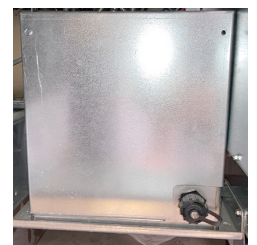

Figure 6
- Remove the JIB to access the FIB box (see Figure 6).